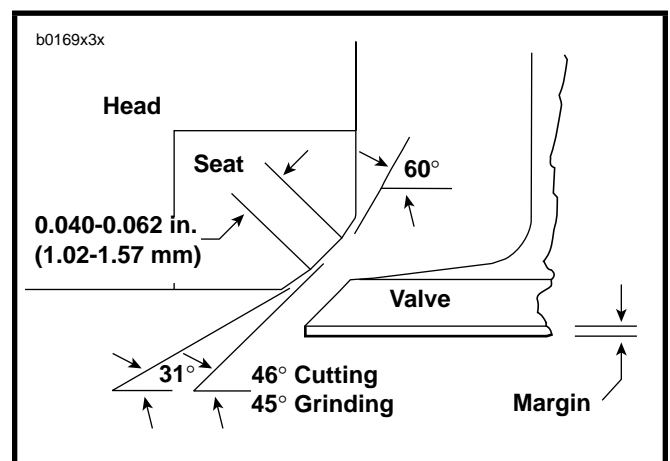

Figure 3-21. Valve Seat Angles
The correct 3-angle valve seat angles are shown in Figure 3-21. Use a NEWAY VALVE SEAT CUTTER (Part No. 444-HDF; part of NEWAY VALVE SEAT CUTTER SET, Part No. HD-35758) to cut the seats. Always grind valves before cutting seats.
3. See Figure 3-21. Check the contact pattern on valve face. It should be 0.040-0.062 in. (1.02-1.57 mm) wide, and its center should be positioned 2/3 of the way toward the outside edge of face.